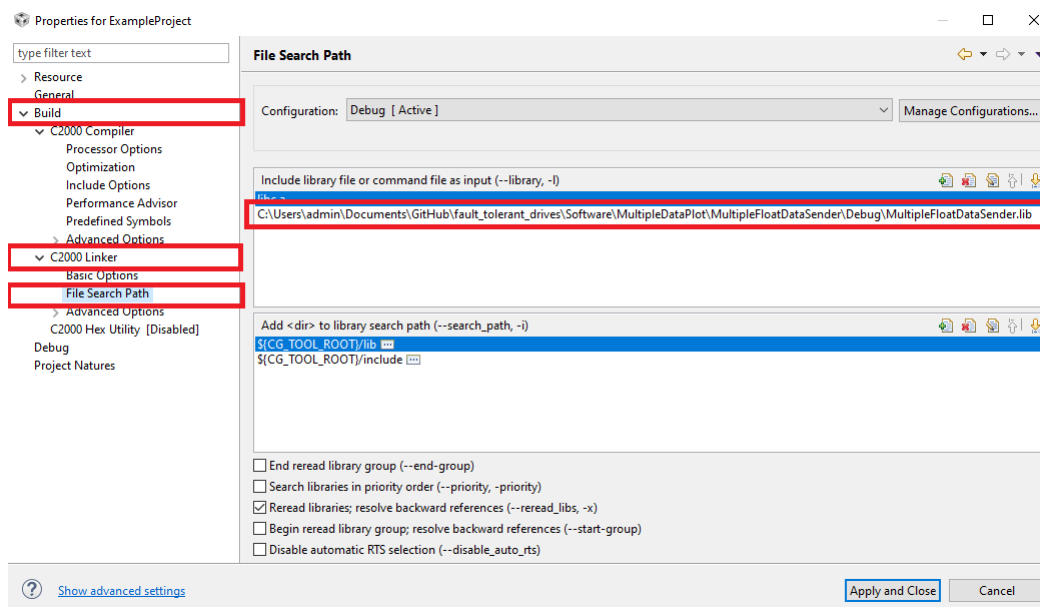

Figure 2: Linking the library file
1. Add the MultipleFloatDataSender.lib file to **Build -> C2000 Linker -> File Search Path**, as shown in Figure 2.